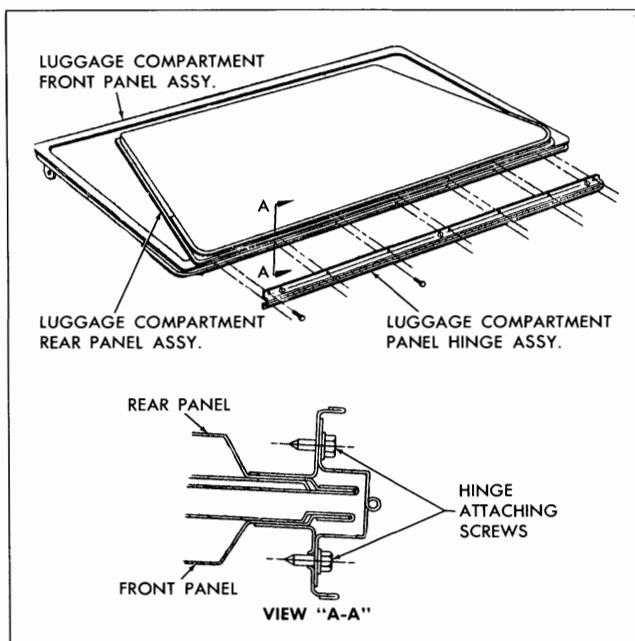

Fig. 8-6 Front and Rear Panel Hinge - 35 Styles
1. Fold rear panel forward until it rests on front panel (Fig. 8-6).